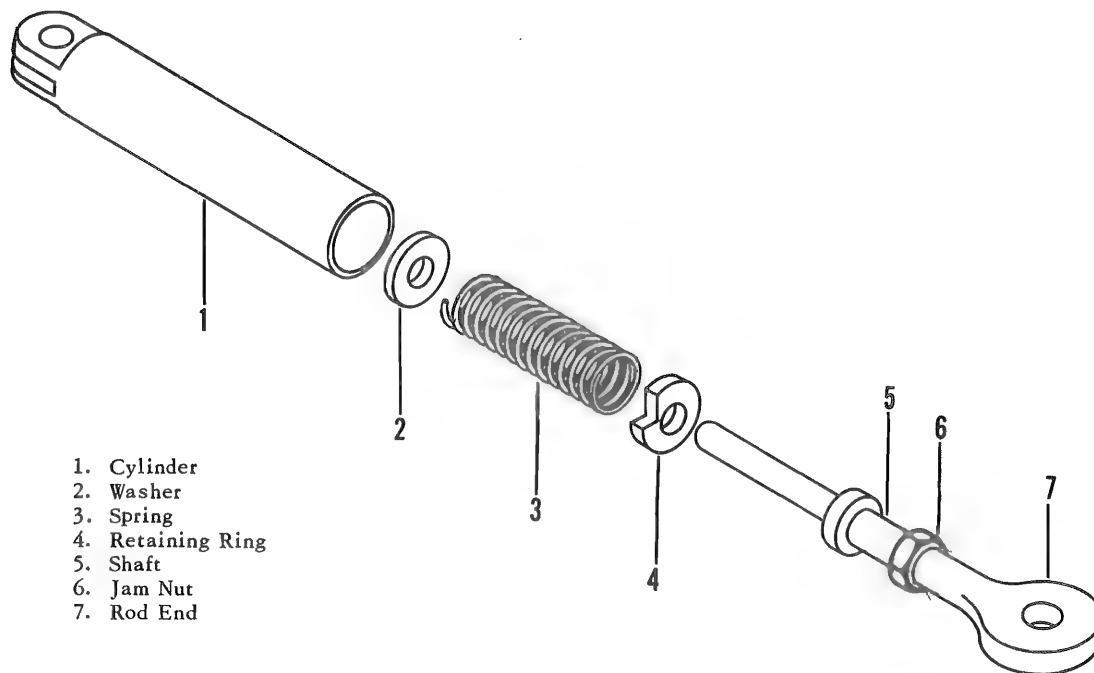

Figure 7-10. Collective Open-Loop Spring Cylinder
c. Loosen rod-end jam nut (6, figure 7-10) at lower end of collective open-loop spring cylinder. Slide washer along shaft (5) so rod end is free to turn.
d. If collective pitch stick drops when released after being placed in mid position, screw shaft (5) out of rod end until stick remains stationary.
e. If stick rises when released, screw shaft (5) into rod end until it remains stationary. Secure rod-end jam nut.